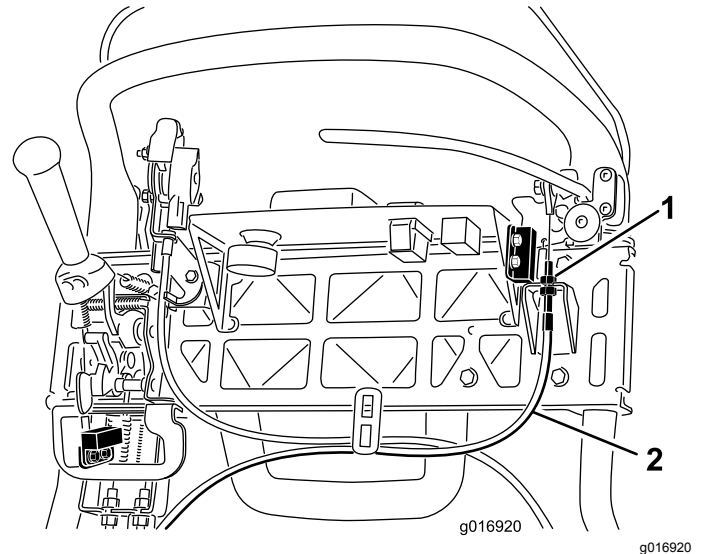

Figure 44
4. To increase the cable tension, loosen the upper cable jam nut and tighten the lower cable jam nut (Figure 44) until a force of 156 N (35 lb) applied to the brake lever handle, is required to release the parking brake latch. Do not over adjust or the brake band may drag.